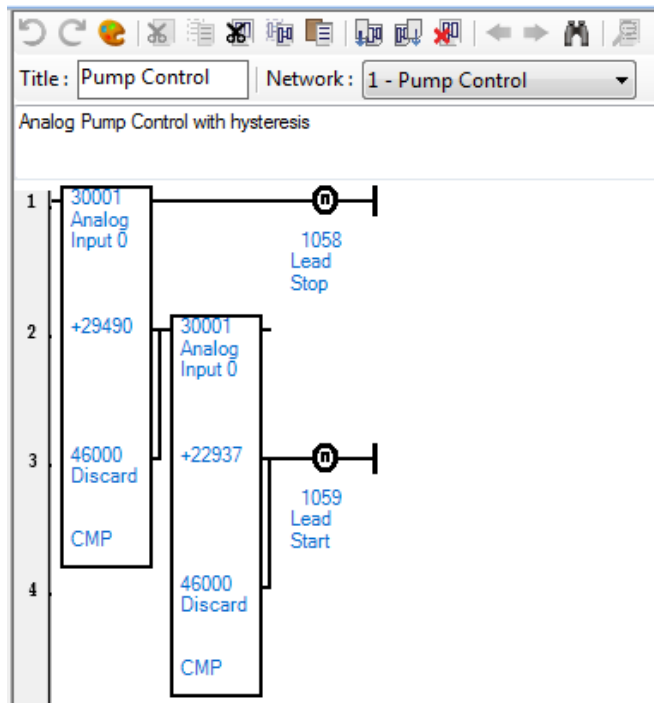

Figure 34: Hysteresis Example
- **Modify** your program as shown in Figure 34 – Hysteresis Example